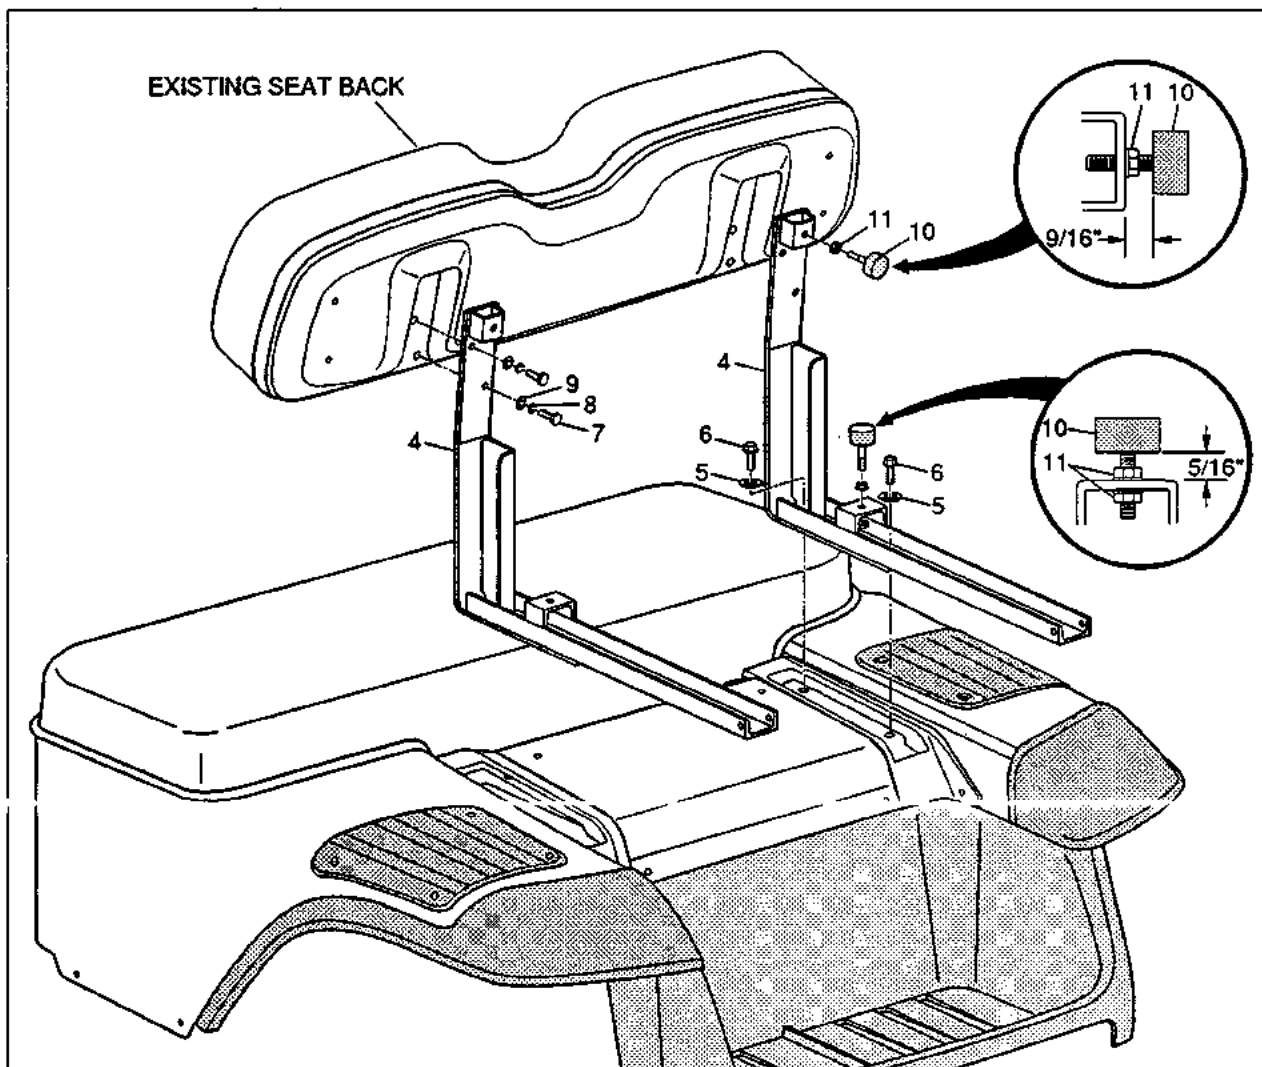

Fig. 3
- Install the new seat back supports (item 4) to the frame using washers (item 5) and screws (item 6). Finger tighten hardware to allow for adjustment. (See Fig. 3)
3. Using screws (item 7), lock washers (item 8) and flat washers (item 9), secure the existing seat back to the new seat back support. (See Fig. 3)
4. Install rubber bumpers (item 10) on vertical part of seat support bracket using one lock nut (item 11) (per bumper) as shown in Fig. 3. Tighten to dimension specified.
5. Install rubber bumpers (item 10) on horizontal part of seat support bracket using two lock nuts (item 11) (per bumper) as shown in Fig. 3. Tighten to dimension specified.